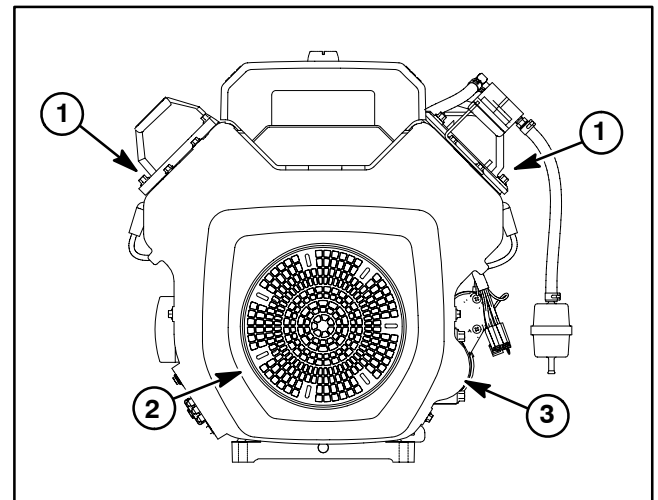

Figure 3
4. Clean grass screen and blower housing of dirt and debris (Fig. 3).